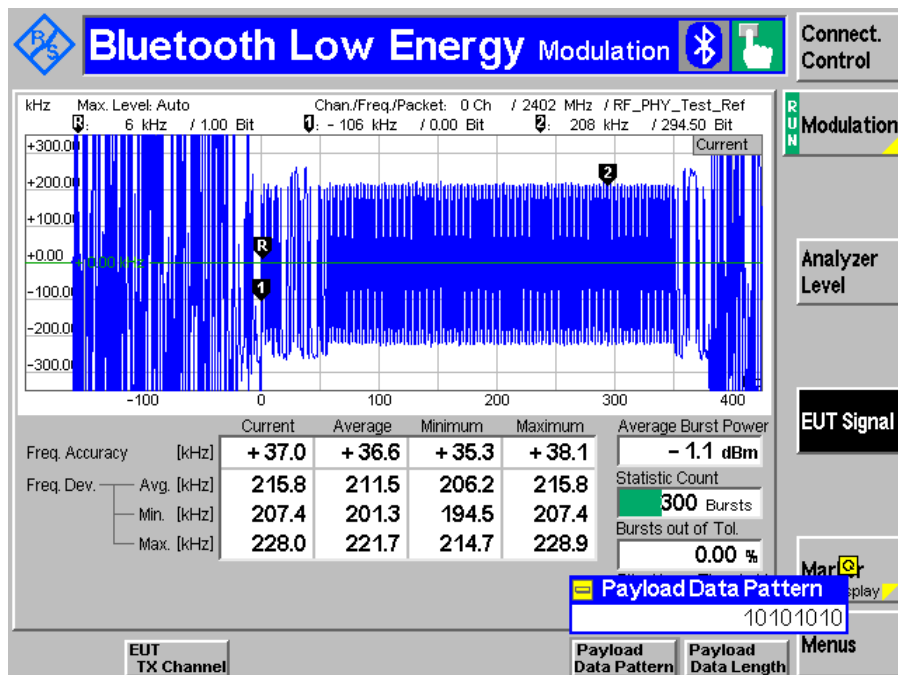
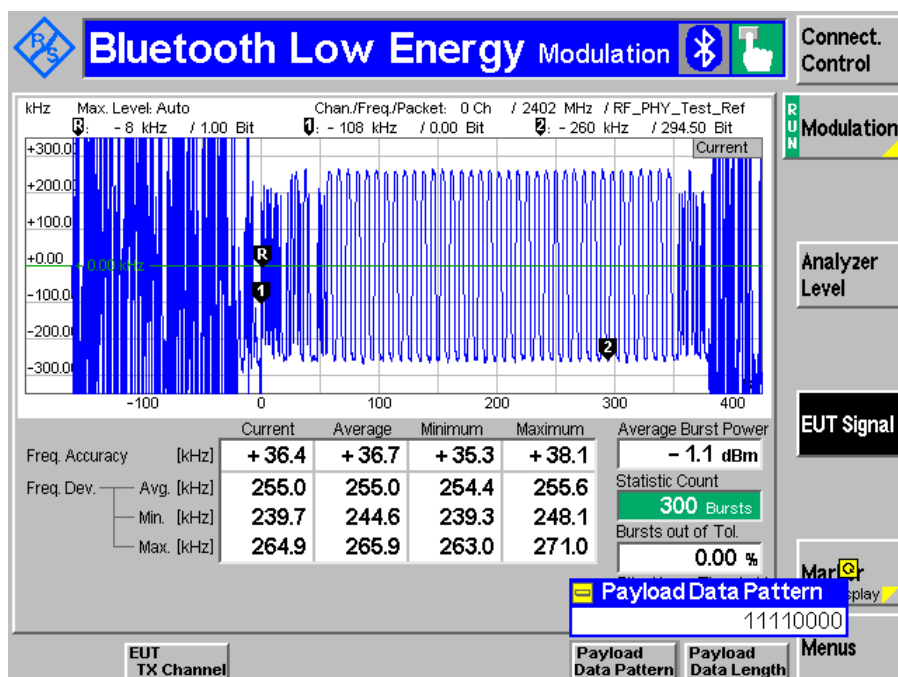

Figure 8. Frequency deviation and accuracy characteristics for payload data pattern 10101010—additional results view
Figure 9. Frequency deviation and accuracy characteristics for payload data pattern 11110000—additional results view
- $\Delta f1_{avg}$  is the average frequency deviation for the data payload pattern 11110000 (Figure 9 – “Freq. Dev. – Avg. [kHz], Average” column).
- $\Delta f2_{avg}$  is the average frequency deviation for the data payload pattern 10101010 (Figure 8 – “Freq. Dev. – Avg. [kHz], Average” column).
- $\Delta f2_{max}$  is the average frequency deviation for the data payload pattern 10101010 (Figure 8 – “Freq. Dev. – Max. [kHz], Average” column)
From the values in Figure 8 and Figure 9, it can be seen that:
- $\Delta f2_{min} = 214.7$  kHz (Figure 8 – “Freq. Dev. – Min. [kHz], Minimum” column), which is the absolute minimum value for each bit in every instantaneous capture and is greater than 185 kHz. This implies that every  $\Delta f2_{max}$  instantaneous value is greater than 185 kHz, which implies that test number 3 passed.